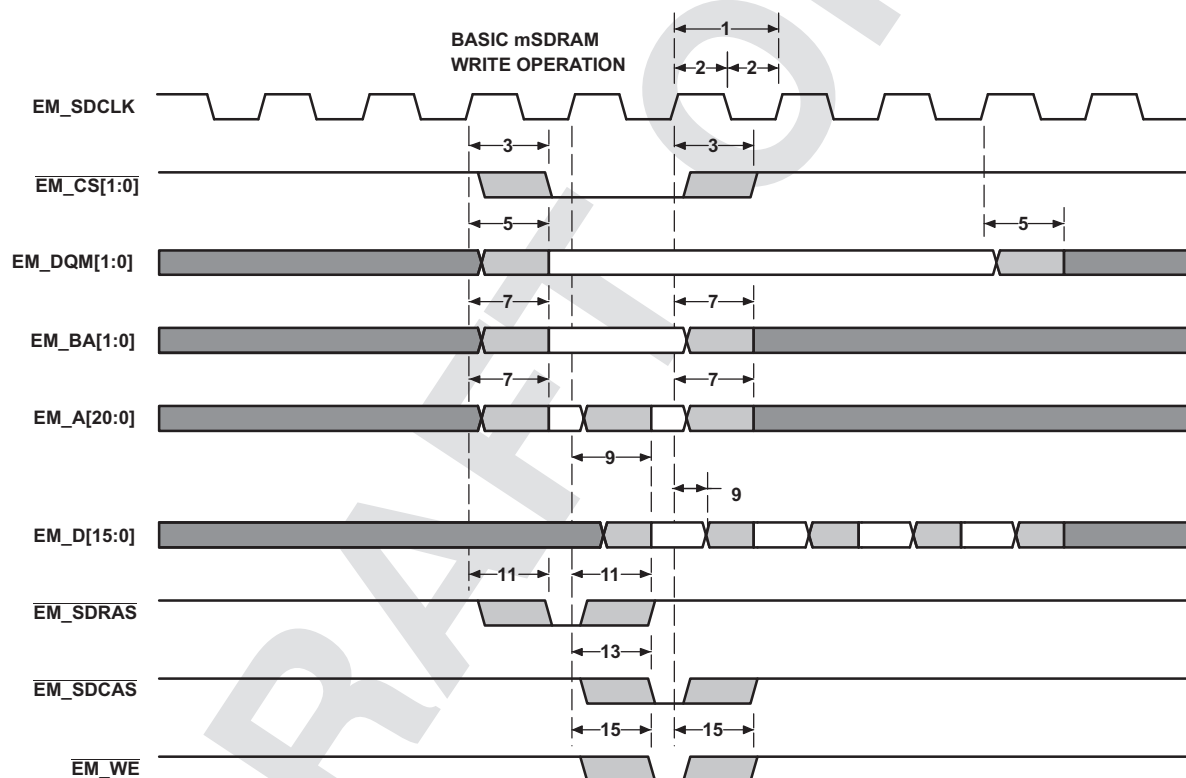
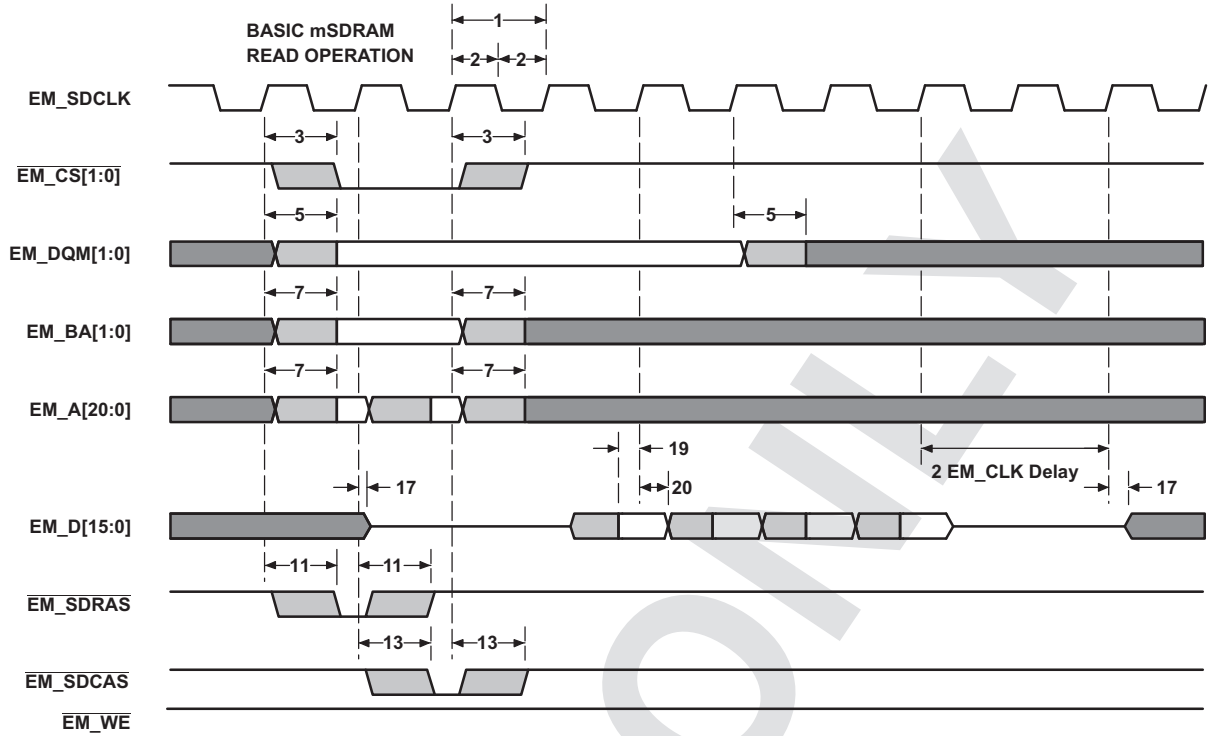

Figure 6-15. EMIF Basic SDRAM/mSDRAM Write Operation
Figure 6-16. EMIF Basic SDRAM/mSDRAM Read Operation
**Table 6-16. Timing Requirements for EMIF SDRAM/mSDRAM Interface (see Figure 6-15 and Figure 6-16)**
**Table 6-17. Switching Characteristics Over Recommended Operating Conditions for EMIF SDRAM/mSDRAM Interface(1) (see Figure 6-15 and Figure 6-16)**